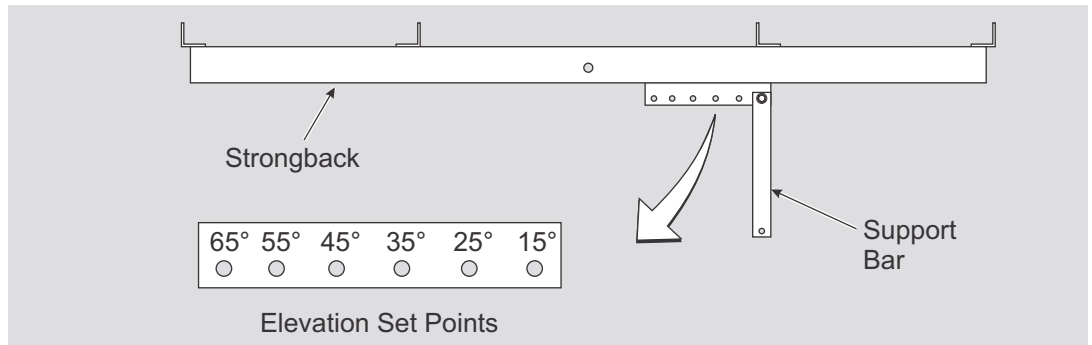

Figure 6-2: Setting the Tilt Angle
- B. Tilt the rack to the desired elevation angle (15°, 25°, 35°, 45°, 55°, or 65°) and re-attach the Support Bar to the Strongback placing the 3/8" hardware in the appropriate hole matching the desired elevation. **Torque to 32-34 ft.-lbs.** (See Figure 6-2)